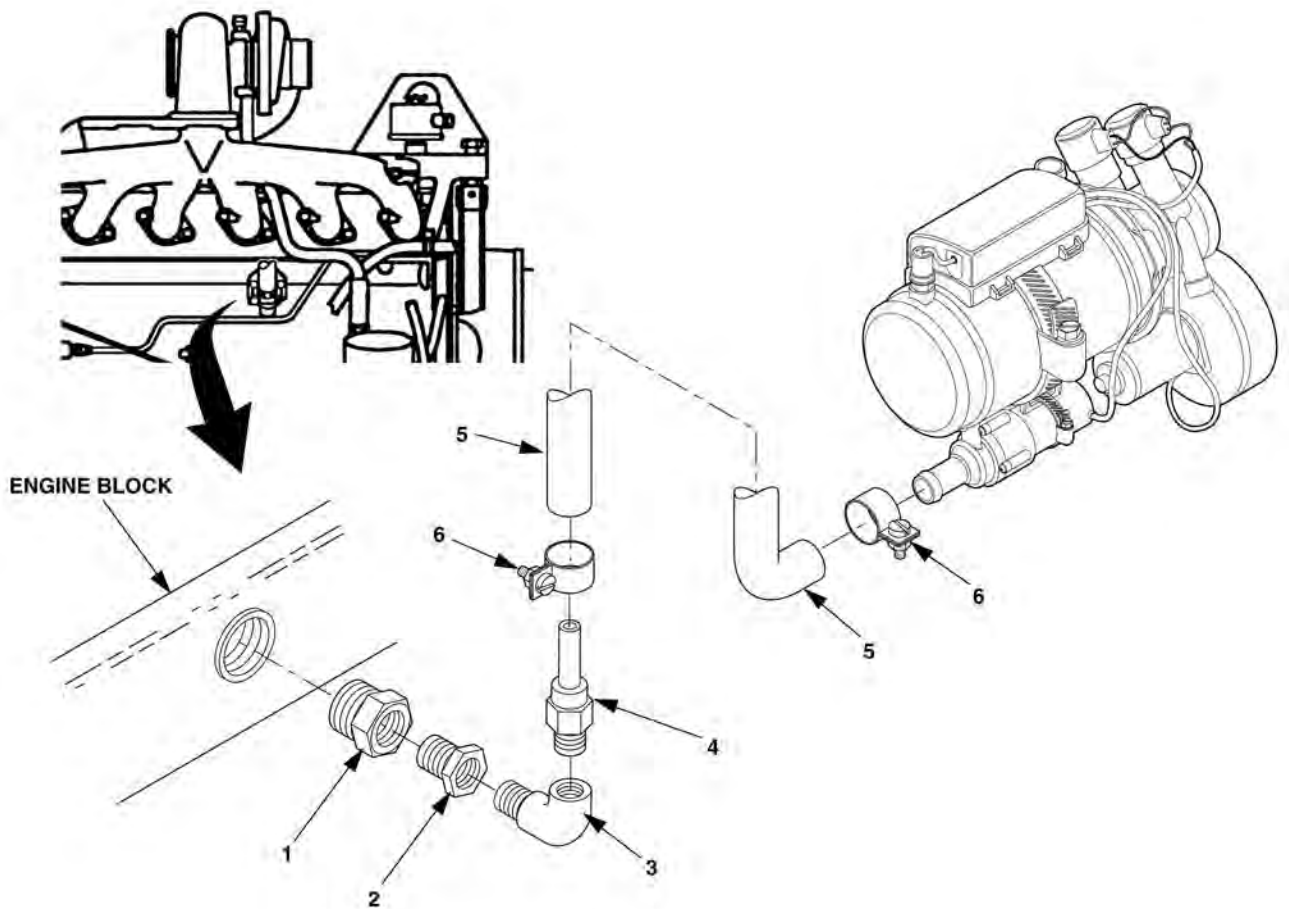

Figure 4-40. Coolant Inlet Hose Removal
9. Remove clamps (6), Figure 4-40, and coolant hose (5) from heater coolant pump. Remove adapter (1), bushing (2), and elbow 90° extension (3) from engine block and install new expansion plug in engine block hole.